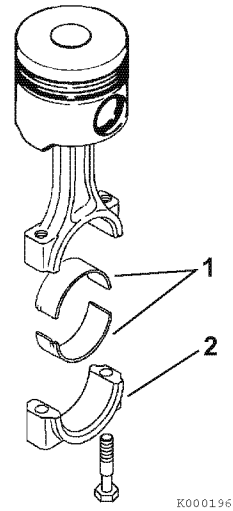

Figure 6-96
- Reinstall the bearing inserts (Figure 6-96, (1)) in the connecting rod and cap.
- Apply a light coat of clean engine oil to the rod cap bolts. Reinstall the connecting rod cap (Figure 6-96, (2)). Tighten the connecting rod bolts to the specified torque in two stages (1/2 then full torque). See *Special Torque Chart* on page 6-13.